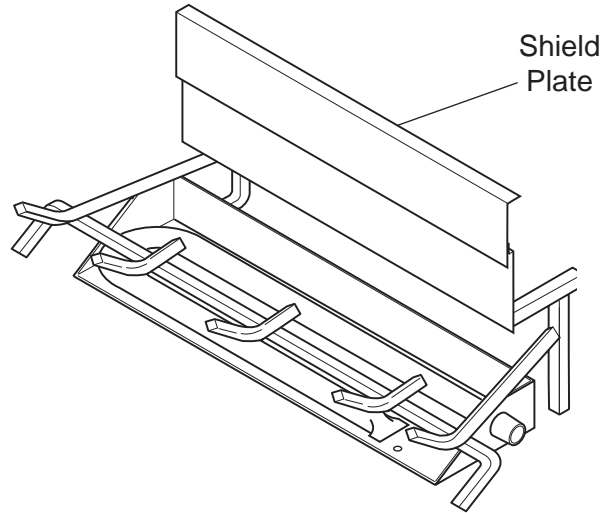

Figure 75 - Sliding Shield Plate Down Back of Burner Pan
1. Slide shield plate down back of burner pan. *See Figure 75.*